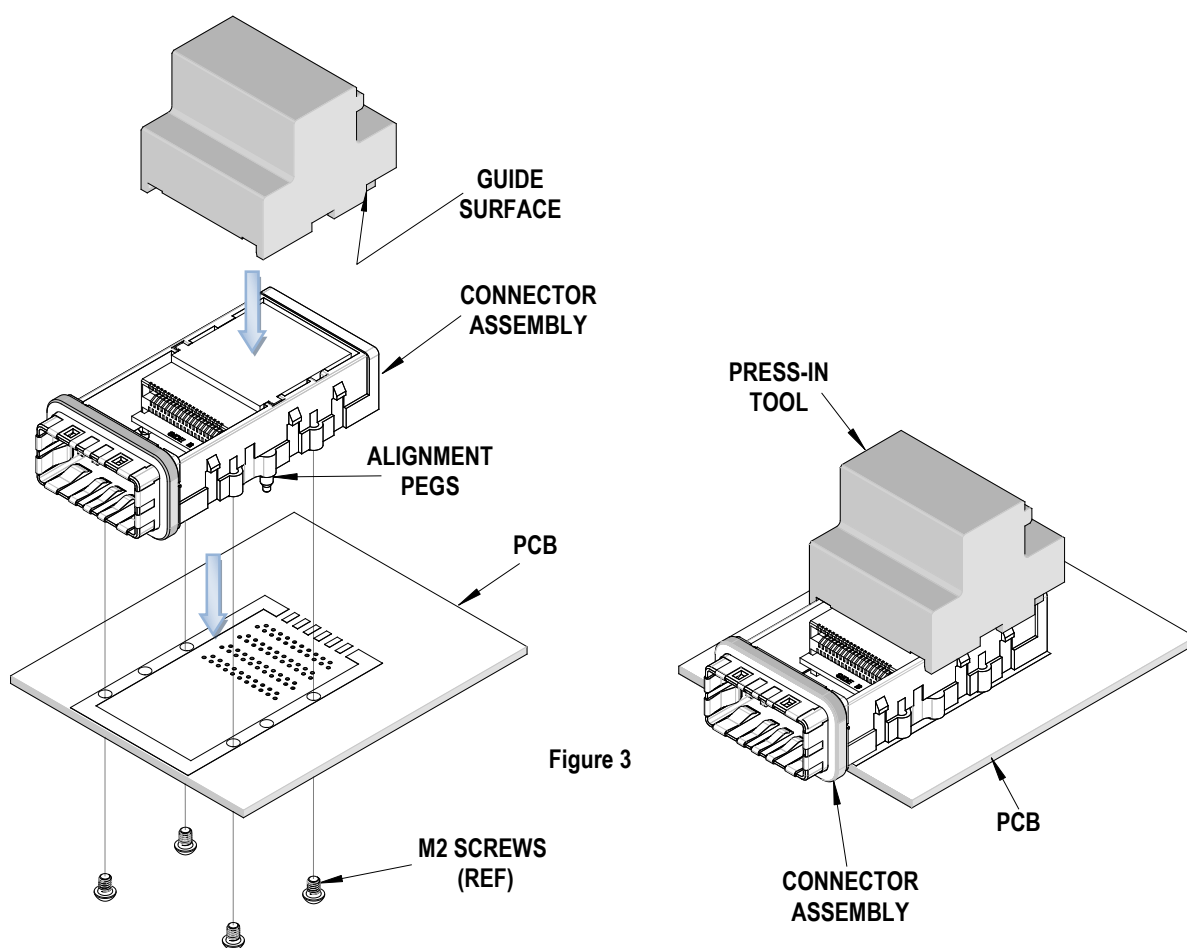

Figure 3
- Carefully insert, by hand, the connector assembly (*without the cover*) using the alignment pegs (2) for location on the PCB.
- Place the press-in-tool on top of the connector assembly with the back and side guide surfaces of the tool against the back and side(s) of the connector assembly. See Figure 3.